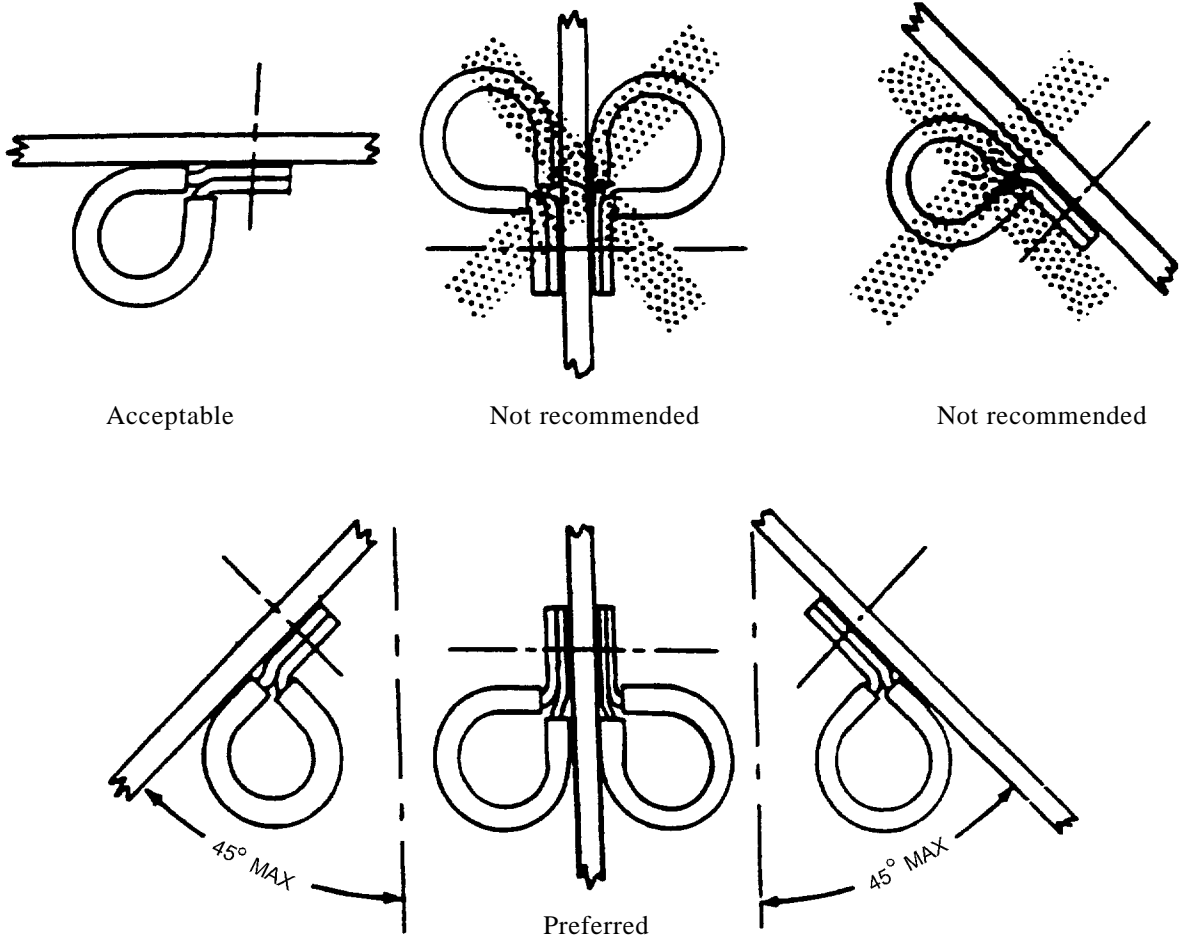

Figure 26. Preferred Angle for Cable Clamps
44. **Installing Clamps.** Install MS21919 cable clamps as shown in Figure 26. The mounting screw should be above the wire bundle, if possible. It is also desirable that the back of the cable clamp rest against a structural member. Use hardware, as shown in Figure 27, to mount cable clamps to structure. Be careful not to pinch wires in cable clamp. If the wire bundle is smaller than the nearest clamp size, or if a clamp of the proper size is not available, wrap the wire bundle with the necessary number of turns of non-adhesive insulating tape so that the bundle will be held securely in the clamp. Typical examples of how clamps are to be mounted are shown in Figures 28 through 33.